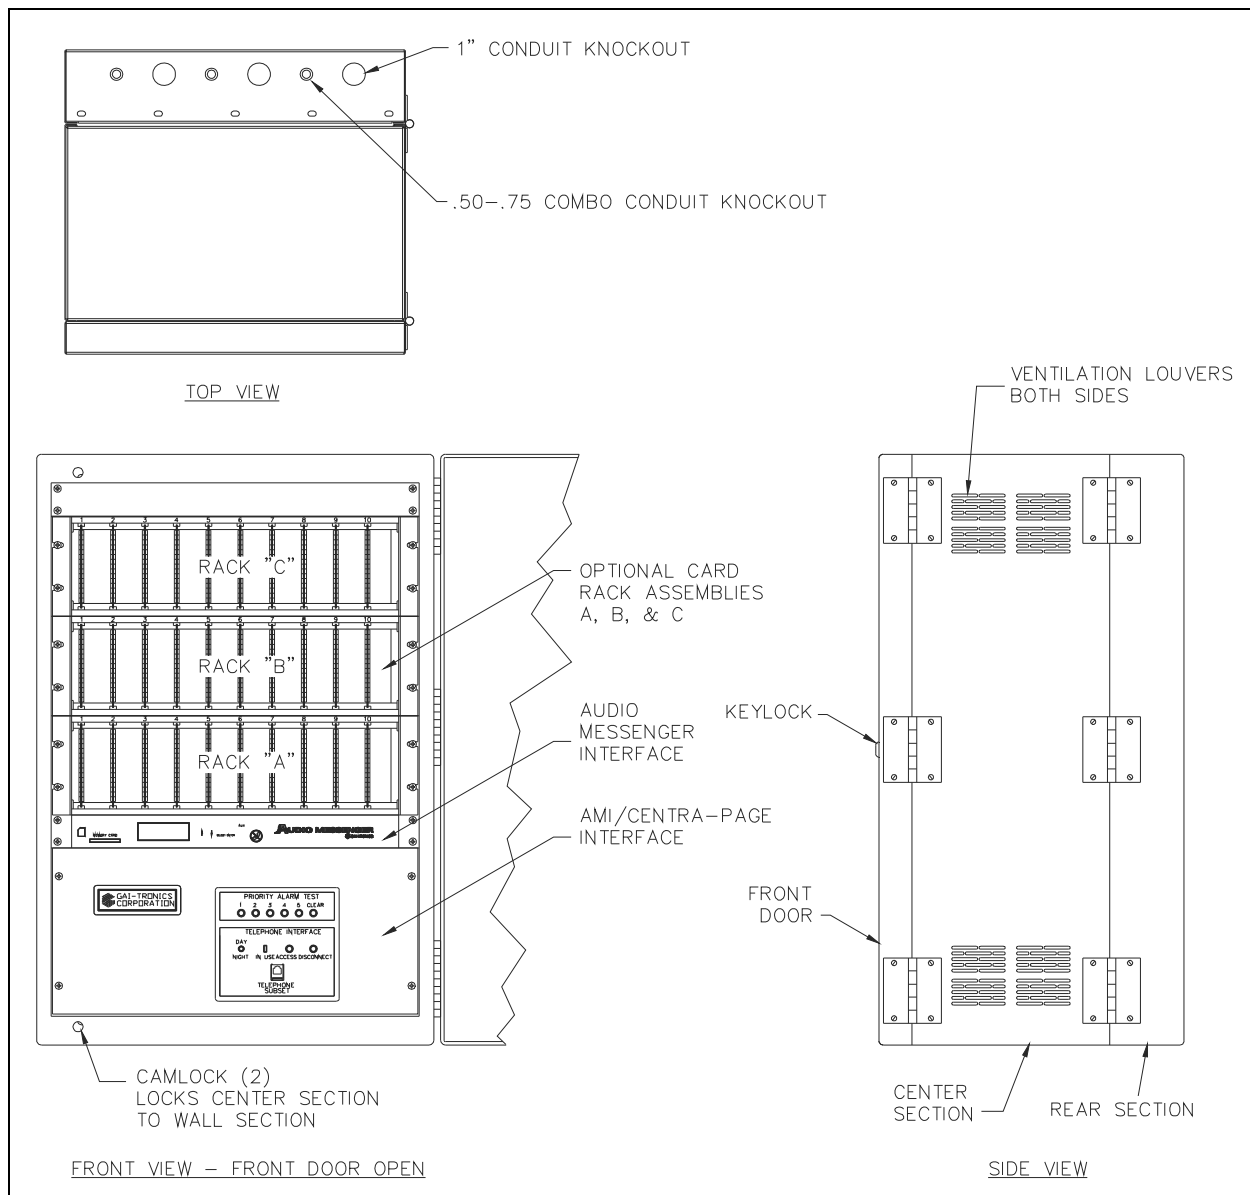

Figure 2. Model 10468-002 Centra-Page Central Cabinet - outline (shown fully-loaded for clarity)
2. Determine which of cabling knockouts will be used and remove them before mounting the cabinet. Refer to Figure 2.